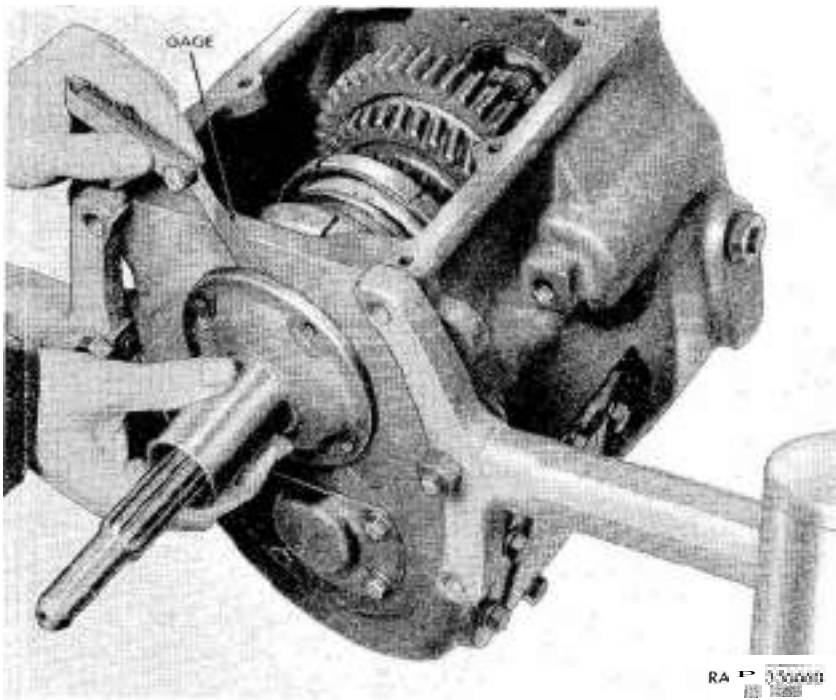

Figure 118. Checking clearance between input shaft bearing retainer and case with thickness gage.
- (2) Coat outside surface of main shaft oil seal (LL) with plastic-type gasket cement and position seal in main shaft bearing retainer (HH) with edge of leather toward transmission case and drive seal in flush with outer edge of bearing retainer.
- (3) Position input shaft bearing retainer (AV) over shaft and against transmission case without input shaft bearing retainer gaskets (AS). Hold bearing retainer firmly against transmission case, and check clearance between retainer and case with a thickness gage (fig. 118). Gaskets have a normal thickness of 0.010 inch and total thickness of required gaskets must be 0.006 inch more or less (plus or minus 0.006 inch) than clearance between retainer and case.